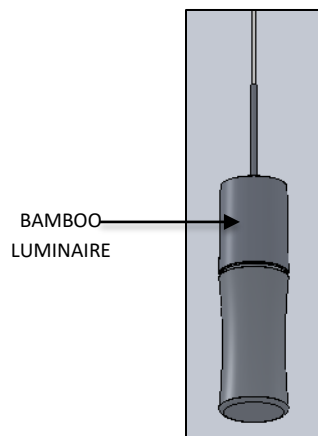

FIG.2 BAMBOO LUMINAIRE
1. BAMBOO LUMINAIRE with CORD attached. (Pre-assembled as shown in FIG. 2)